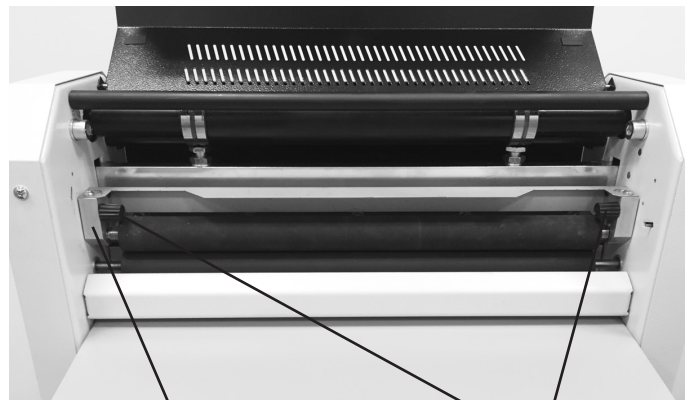

Fig. 1b
3. Lift the upper cover and remove the 2 locking screws located on the joist of the hinged pressing mechanism (fig 1b).